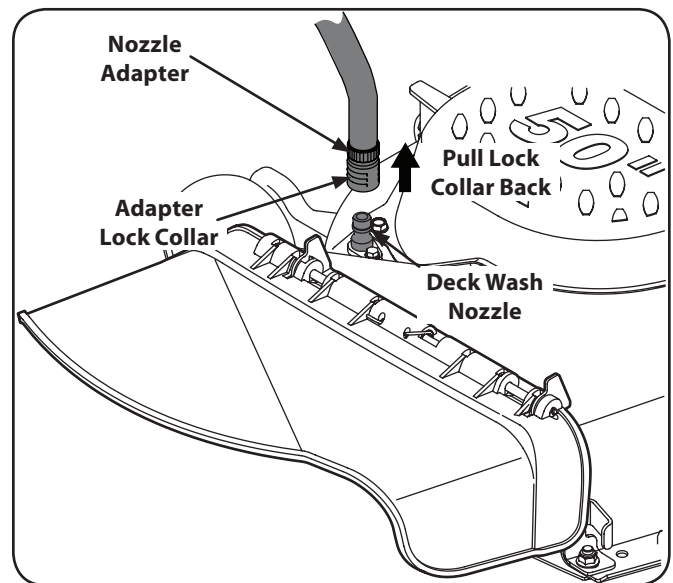

Figure 6-1
3. Pull back the lock collar of the nozzle adapter and push the adapter onto one of the deck wash nozzles at either end of the mower deck. Release the lock collar to lock the adapter on the nozzle. See Figure 6-1.